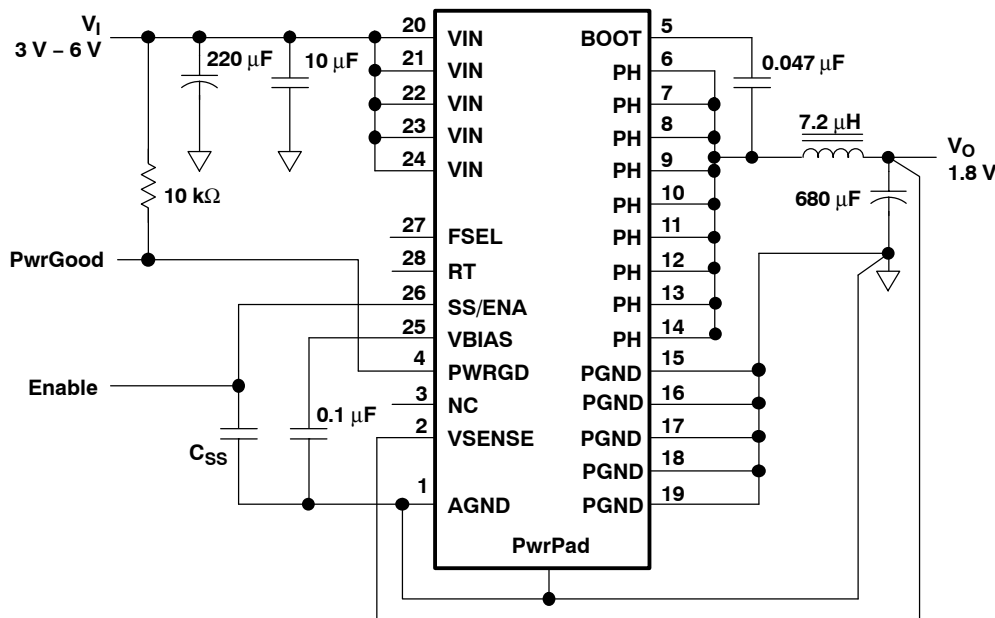

Figure 10. Application Circuit
(3)Tested using circuit in Figure 10.
Figure 10 shows the schematic diagram for a typical TPS54614 application. The TPS54614 (U1) can provide greater than 6 A of output current at a nominal output